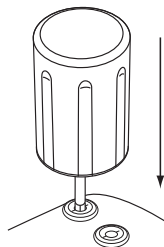

Figure 6. Inserting the torque wrench
- c. Gently insert the torque wrench blade into the setscrew by passing it through the preslit, center depression of the seal plug at a 90° angle (Figure 6 on page 71). This will open up the seal plug, relieving any potential pressure build-up from the lead port by providing a pathway to release trapped fluid or air.